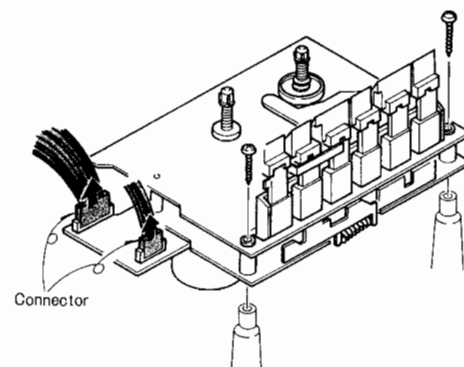

Fig. 3
- 1) Remove the 2 screws (Red), and disconnect the 2 connectors. (See Figure 3)